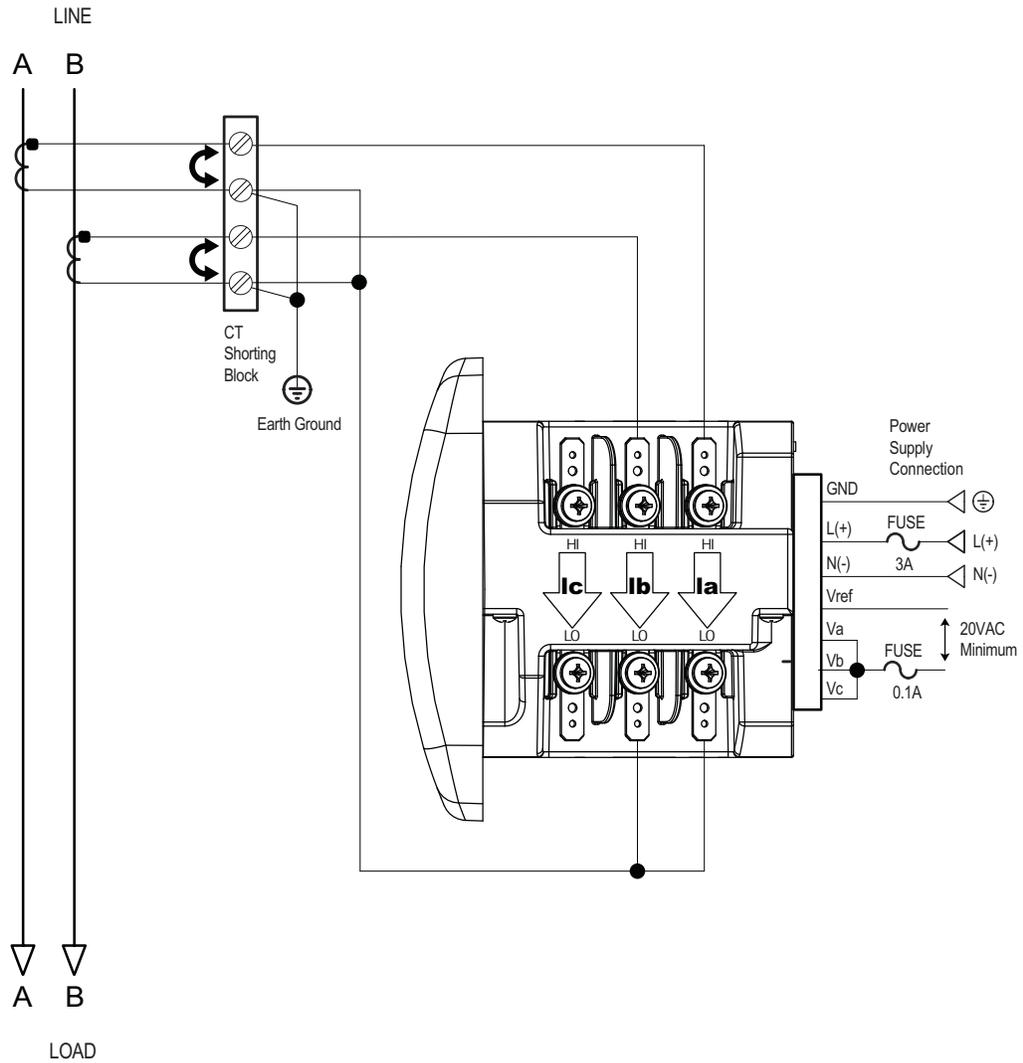

Figure 4-15: Current Only Measurement (Dual Phase)
- Figure 4-15: *Current Only Measurement (Dual Phase)* on page 4-18